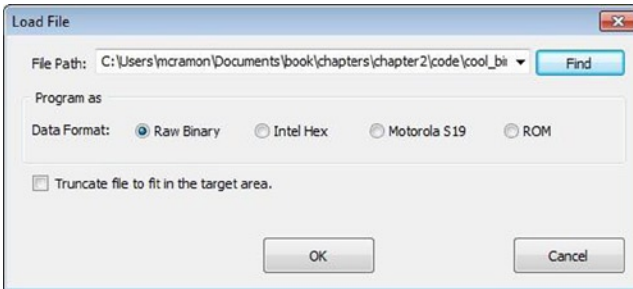

Figure 2-18. Selecting the binary file to program
4. Click the **File** option and select the binary with the platform you have created, as shown in Figure 2-18. Make sure that the **Raw Binary** option is selected and then click the OK button.